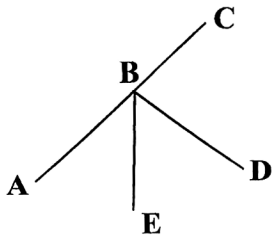

Fig. 1
b) Determine the number of bolts for the joint shown in Fig.1